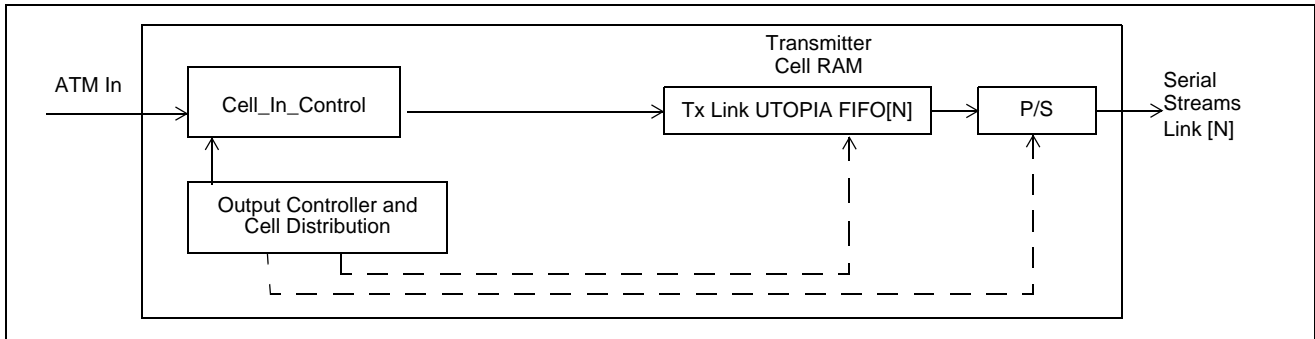

Figure 6 - Functional Block Diagram of the Transmitter in TC Mode (For Link[N], 0 ≤ N ≤ 15)
A maximum of sixteen independent serial interfaces can be configured in TC mode (16 for the MT90224, 8 for the MT90223 and 4 for the MT90222). Figure 6 gives a functional block diagram of the transmitter in Transmission Convergence (TC) mode.